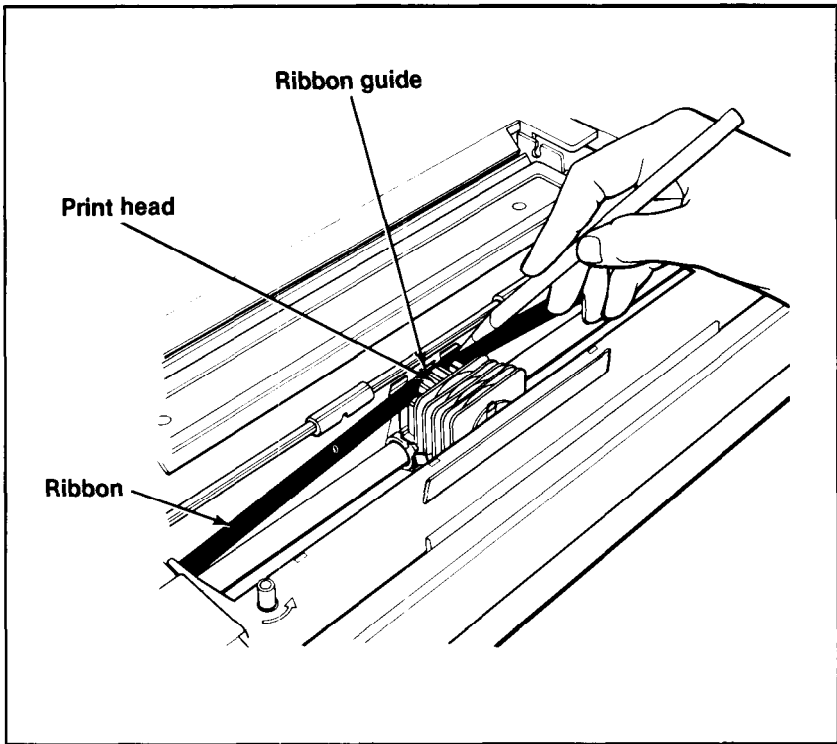

Figure 1-7. Positioning the ribbon
4. Now use the point of a pencil to guide the ribbon into place between the ribbon guide and the print head as shown in Figure 1-7. (There is also a diagram on the top of the ribbon cartridge itself.)